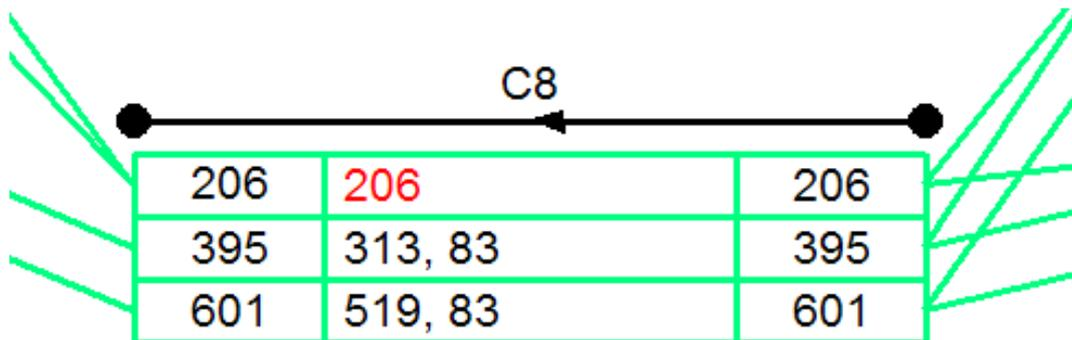

Figure 4.13 - FlowRound Arm Showing Flow Components Coloured by Destination
- In the Route Manager's 'Lane Flow Display' section, change the display setting to 'Destination'. Arm C8 now displays as shown in Figure 4.13. The Arm now uses colour to indicate the Destination Zone of Flow Components. For example, the red 206 indicates this Flow Component is travelling to Zone B.